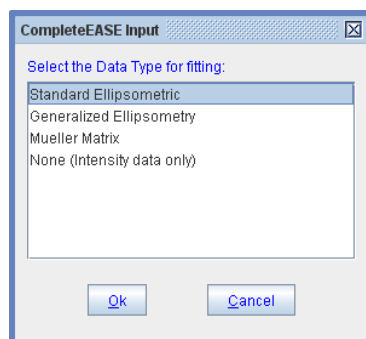

Figure 9-105. Choose the selected data type to use during fit.
Choose which type of data to include in the Fit. Choices include Standard Ellipsometry (SE), generalized-SE, Mueller-matrix, and Intensity data only, as shown in Figure 9-105.